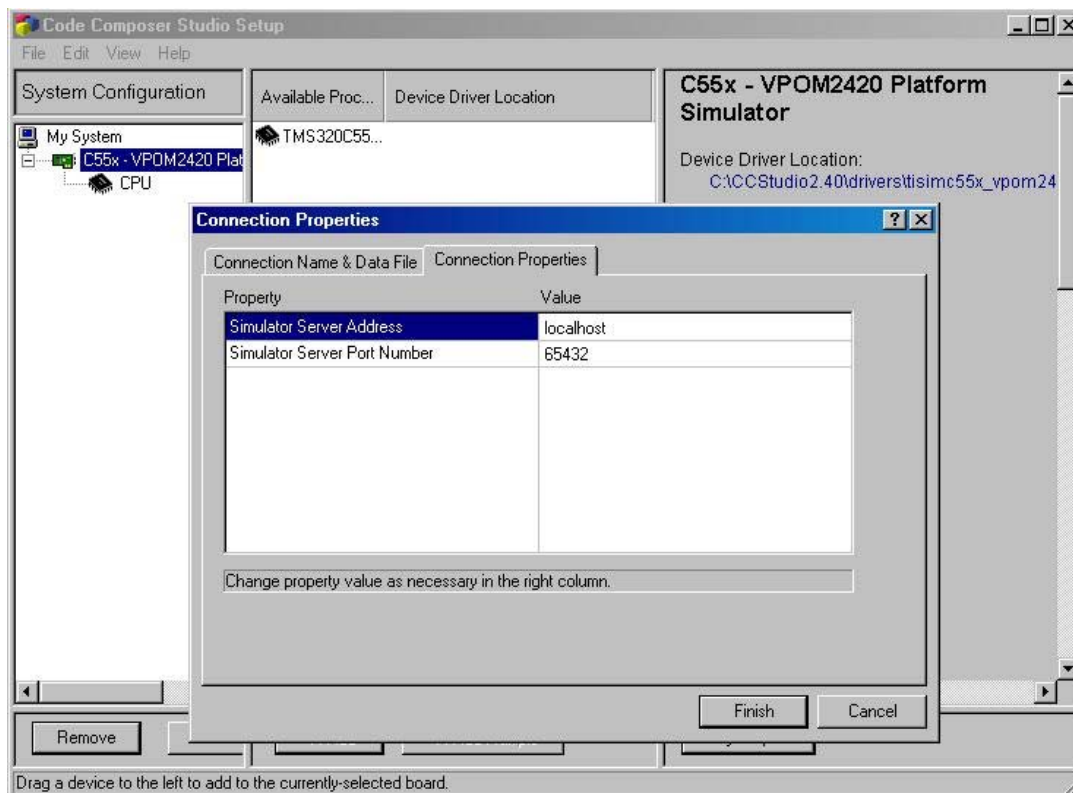

Figure 2. CCStudio Configuration Settings for VPOM2420 C55x Simulator
4. To see board properties, right click on the C55x Driver for VPOM2420 in the System Configuration pane and select Properties from the context menu (see Figure 2). Check the Connection Properties tab to see the values of the server address (default value is localhost) and server port number (default value is 65432). Typically, you won't need to update these fields. However, if you need to change any of these parameters, follow step 5; otherwise, go directly to step 7.